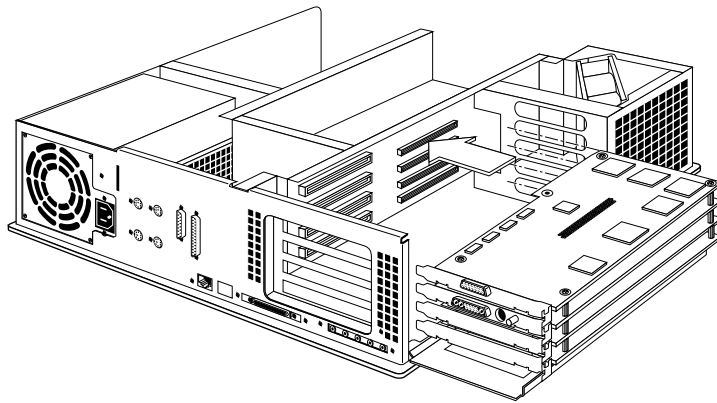

Figure 3-10 Aligning the graphics board set with the chassis
1. Align the right side of the Galileo Video or Indigo² Video board with the metal grooves on the right of the chassis, as shown in Figure 3-10.